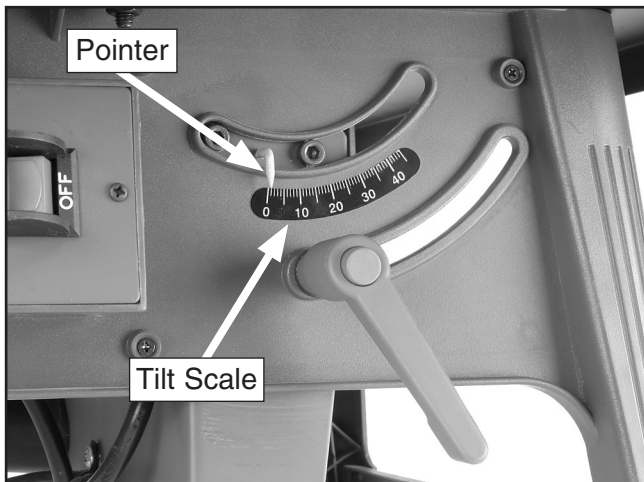

Figure 16. Tilt scale and pointer.
3. Tilt the motor/blade assembly until the pointer shown in **Figure 16** points to the desired blade tilt angle.